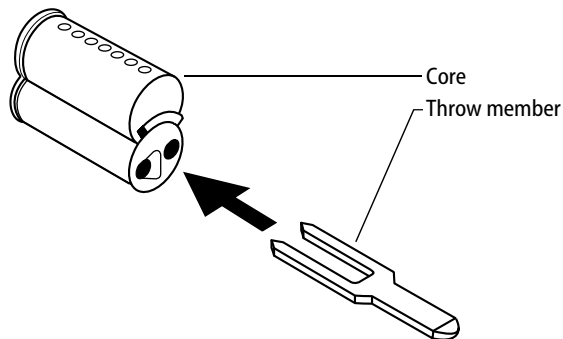

Figure 6 Inserting the cylindrical throw member into the core.
- 1 Insert the proper throw member into the core. Six-pin cores require the number '6' throw member; seven-pin cores require the number '7' throw member. See Figure 6.